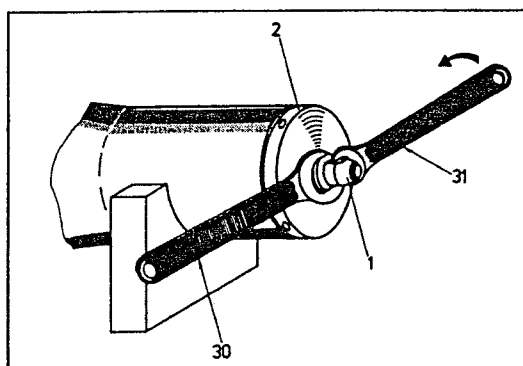

Fig. 2
- The atomizer wheel is fixed by the spanner pos. 30 while loosening the nut pos. 1 by means of the open-end spanner pos. 31. The atomizer wheel can now be pulled off. (Fig. 2).